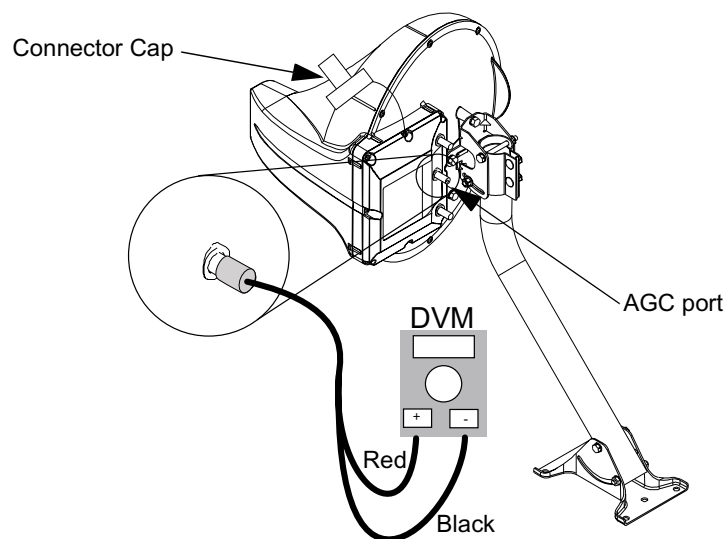

Figure 7. Elevation and Azimuth Adjustment with DVM
2. Disconnect the connector cap from the AGC port (see Figure 7).
3. Connect the DVM to the AGC port using the AGC test port cable (see Figure 7).